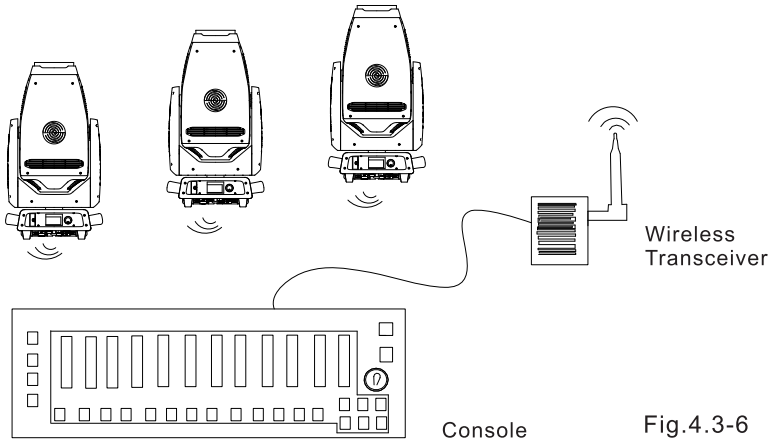

Fig.4.3-6
- (b) Press emitter button to search preset address within a fixture. When it's done, remotely control a fixture through a controller, Shown as Fig.4.3-6.